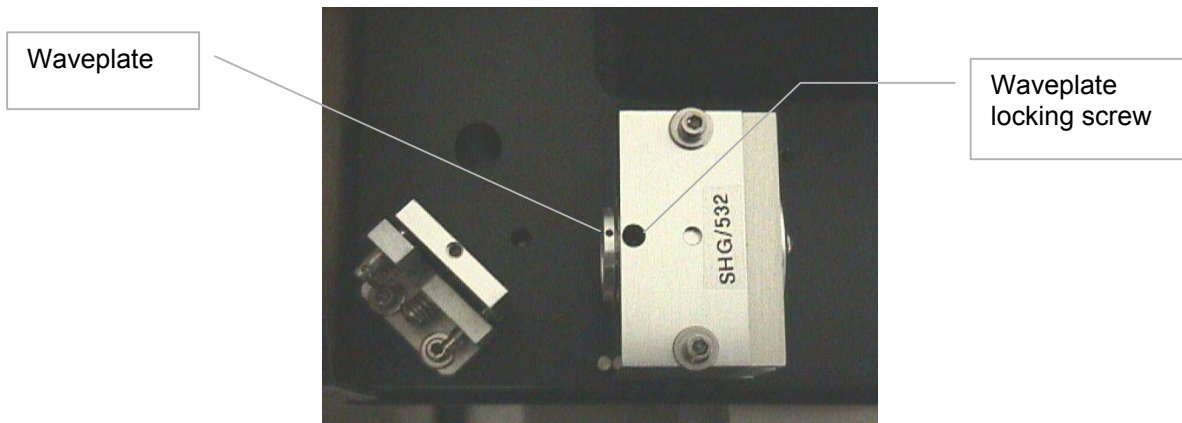

Figure 4-5: Second harmonic Waveplate Optimization
- 5) Release the half wave plate set screw on the top of the second harmonic generator housing, Figure 4-5. Rotate the half wave plate to maximize the green energy (532 nm) output.
- 4) Adjust the wave plate on the second harmonic generator housing to maximize the 355 nm energy, figure 4-5. This adjustment maximizes 355 nm energy for only one laser head.
- 4) Adjust the wave plate on the second harmonic generator housing to maximize the 266 nm energy, Figure 4-5. The adjustment that maximizes 266 nm energy for one laser head will also maximize it for the second laser head.
- 2) Release the half wave plate set screw on the top of the second harmonic generator housing, Figure 4-5. Rotate the half wave plate to maximize the green energy (532 nm) output.